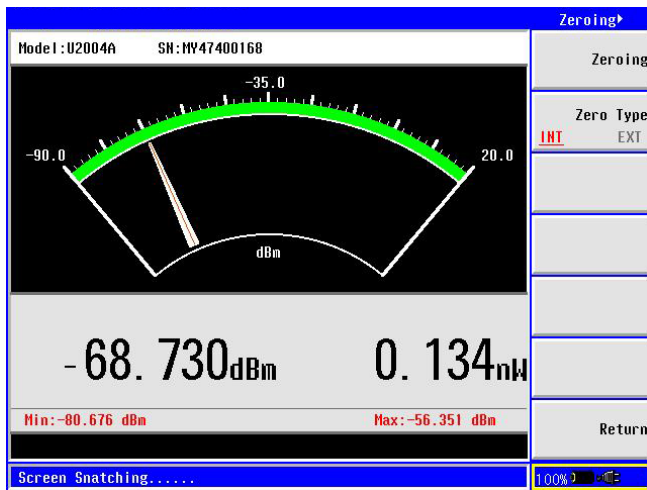

Figure 15. External and internal zeroing are performed to reduce the zero offset and noise impact in order to measure power accurately
3. Press {Zeroing ▶} to perform the internal or external zeroing if necessary (see Figure 15).